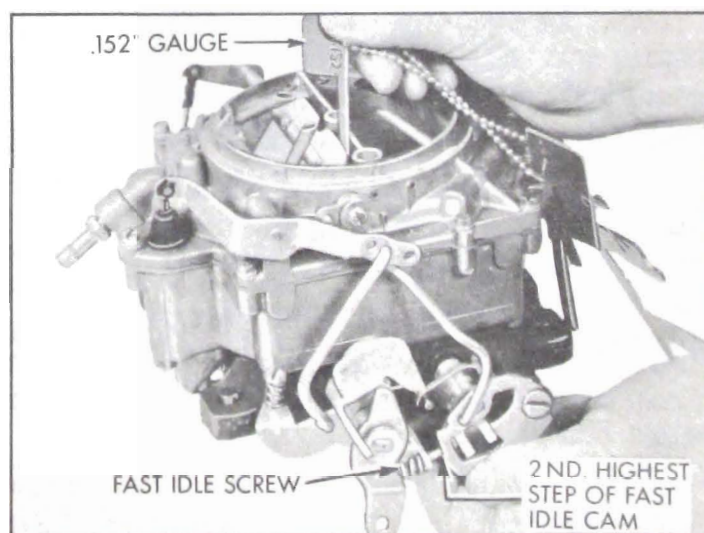

Figure 3-82—Checking Fast Idle Cam Adjustment
1. Close throttle so that fast idle screw contacts second highest step of fast idle cam with side of screw against rise to high step of cam, then check clearance between choke valve and air horn dividing wall using .152" Gauge (No. 24 drill). See figure 3-82.